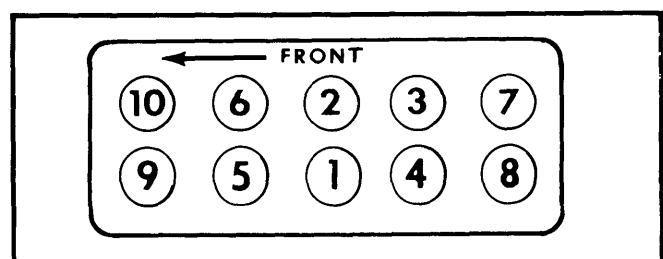

Fig. 2 Tightening Sequence for Cylinder Head
3) Install cylinder head bolts and tighten, in steps, according to sequence shown in Fig. 2. Install cylinder head-to-front cover bolt. Install distributor drive gear, tighten nut and bend lock washer.